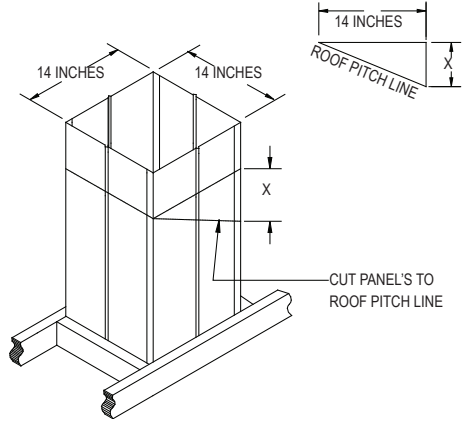

Figure 8
5. Cut Roof Opening: Cut an opening in the roof directly above the opening below, and at least 4 inches larger than the chimney's outside diameter to provide at least a 2-inch clearance all around the chimney. If the installation is located between rafters that are 16 inches on center, Close Clearance Shields (a sheet metal product fabricated by DuraVent), may be used to avoid structural reframing. (**Figure 8**). The 2-inch minimum clearance to combustibles is not required when the chimney passes through Close Clearance Shields. When using Close Clearance Shields, Ventilated Flashing must be installed. Refer to **Figure 10**, which pictures both Ventilated and Non-ventilated Flashing.